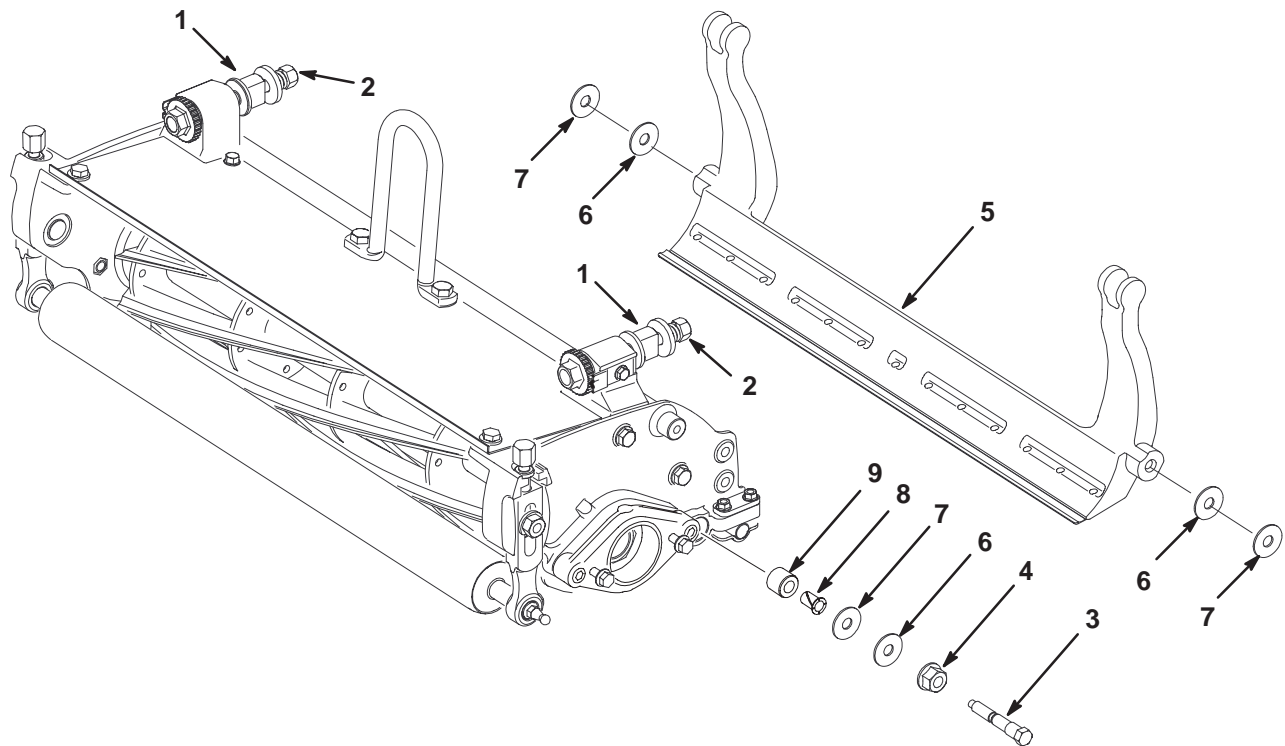

Figure 1
1. Loosen the lock nut on each spring adjuster assembly (Fig. 1).
2. Loosen the flange nut on each bedbar pivot bolt (Fig. 1).
3. Remove the bedbar pivot bolt and the 2 washers from the outside of each side plate (Fig. 1).
4. Remove the bedbar and the 2 washers from the inside of each side plate (Fig. 1).
5. Inspect the nylon flange bushings (Fig. 1) and remove if necessary.
6. Inspect the rubber bushings (Fig. 1) and remove if necessary.